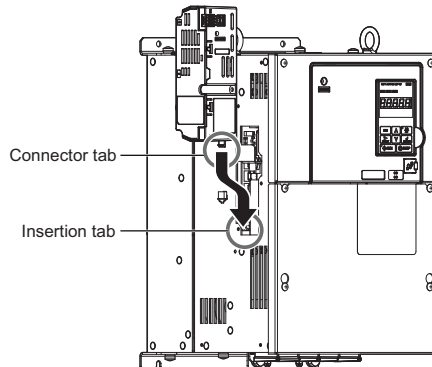

Figure 16 Tab Locations
6. Align the connector tabs on the option with the insertion tabs on the drive as shown in Figure 16.